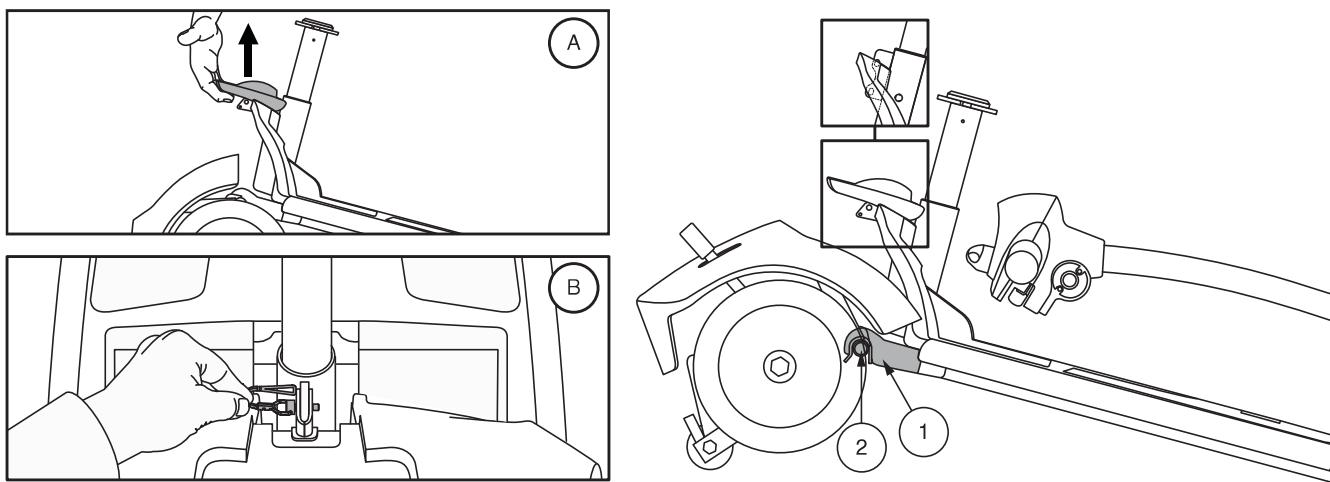

Figure 32. Frame Release Lever (Style A) and Frame Release Lock-up Pin (Style B)
4. Slowly separate the two sections of the Travel Scooter. See **figure 32**.
NOTE: Before attempting assembly, tilt the rear half of the Travel Scooter slightly back on the anti-tip wheels as shown in figure 32.
1. Use the frame release lever (or the seat post for models 36, 83, and 84 only) to lift the front section as you align the frame hooks of the front section with the lower frame tube of the rear section. See **figure 32**.
2. Once the frame hooks are over the lower frame tube, lower the front section and pivot the rear section simultaneously. This will engage the frame lock-up automatically for models 39, 40LX, 40X, 44X, 40E, 44E, 44LX, 49, 50LX, 54LX, 53, 53HD, 54, 54HD, 66, 67, 73, 74, and Jazzy ZTS. For models 36, 83, and 84, you will also need to reinstall the frame lockup pin to complete the body assembly. See **figure 32**.